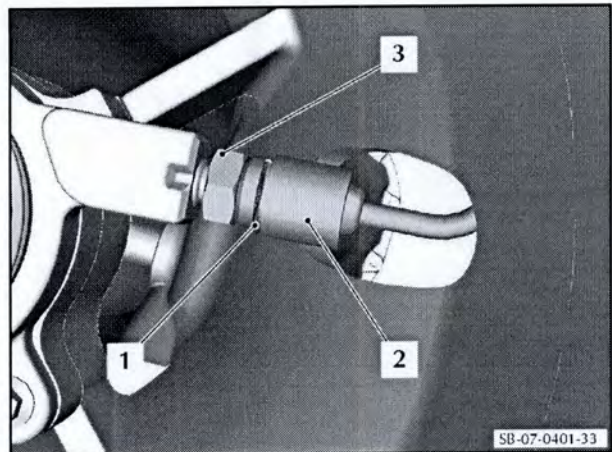

Figure 33
60. Remove the clip (1) that attaches the connector (2) for the clutch fluid tube assembly (tube assembly) to the concentric slave cylinder (3) (cylinder) (refer to Figure 33).
61. Disconnect the tube assembly (2) from the cylinder (3).